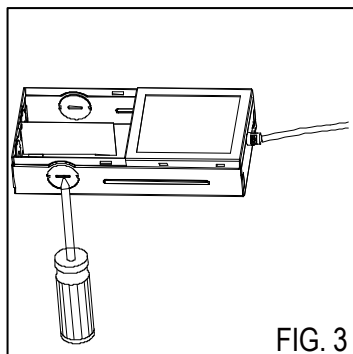

FIG. 3
3. Open knock-off hole. (Fig.3)